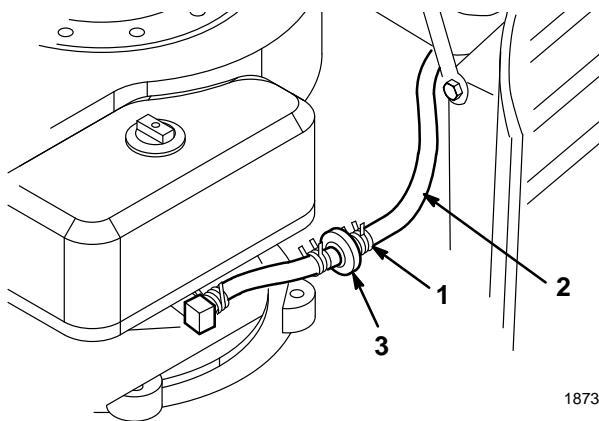

Figure 26
3. Squeeze the ends of the hose clamp together and slide it up the fuel line toward the fuel tank (Fig. 26).
4. Pull the fuel line off the filter (Fig. 26) and allow gasoline to drain into a gas can or drain pan.
The best time to replace the fuel filter (Fig. 26) is when the fuel tank is empty. Never install a dirty filter if it is removed from the fuel line.
3. Squeeze the ends of the hose clamps together and slide them away from the filter (Fig. 26).